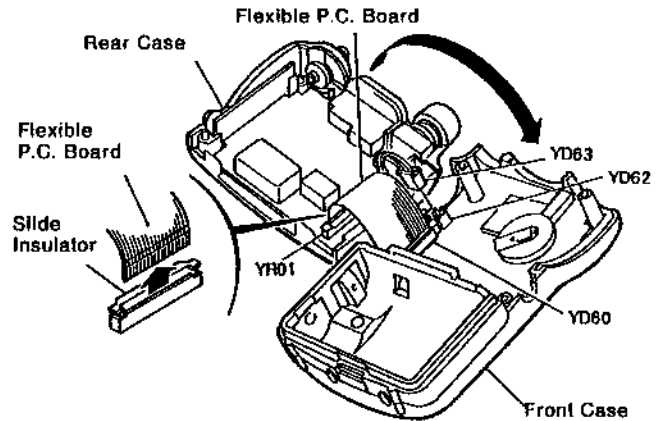

Figure 4-2
- (a) Follow the instructions in 4.1.1 "Removing the Front Case" to put the transceiver into the state shown in Figure 4-2.